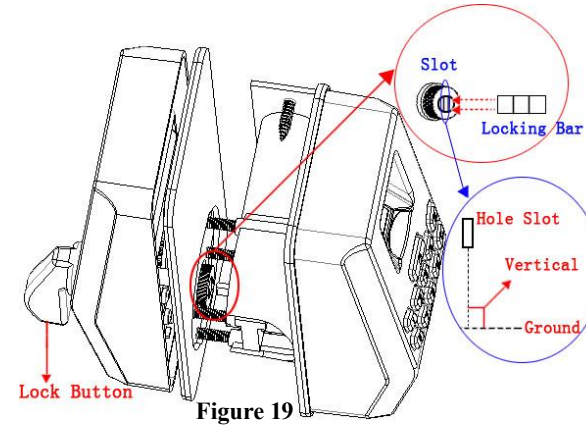

Figure 19
3. Cover the **Silica gel Backing Plate** onto the **Rear panel Assembly**, turn the **Lock Button** to make the **Hole Slot** vertical to the ground, and insert **Locking Bar** into the **Hole Slot**, as shown in **Figure 19**. In this case, when you turn the **Lock Button**, the bolt can sprung out or back automatically.